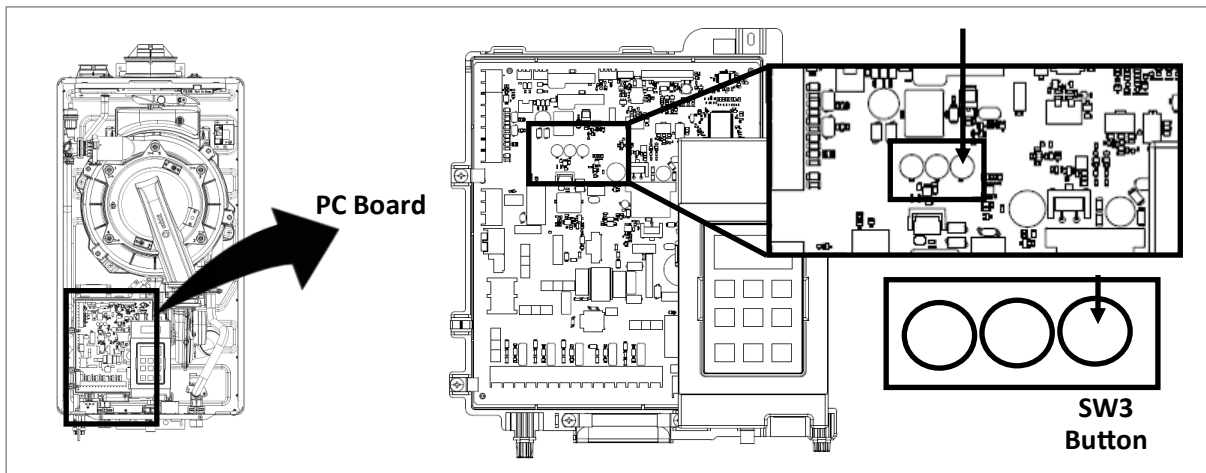
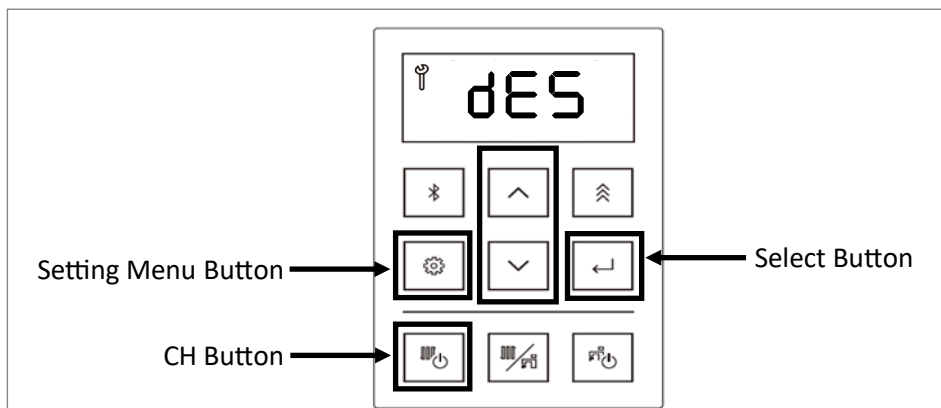

Figure 133
Figure 134
4. Press the SW3 button on the PC Board (Figure 133).
5. Press the up or down arrow button on the controller to select dES (descaling) (Figure 134).
6. Press the Select button to select the dES (Figure 134).
8. Press the Central Heating (CH) button to start the count down (Figure 134).
Note: If you need to cancel this procedure, you may press the Setting Menu button on the controller (Figure 134), or press the SW3 button on the PC Board (Figure 133).